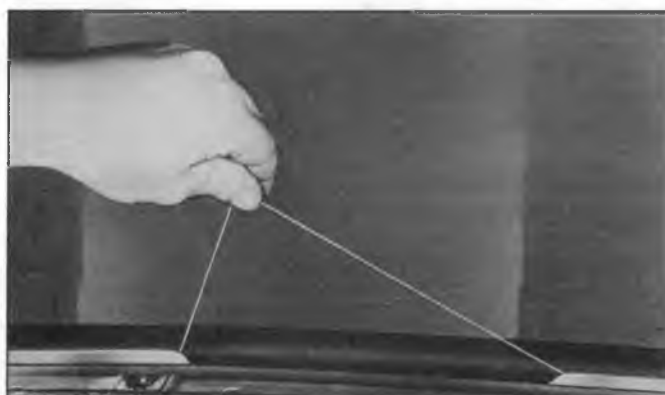

Fig. 9—Pulling String to seal Rubber Lip
- a. Pull on loose ends (fig. 9) until each is within 2" of its respective upper corner.